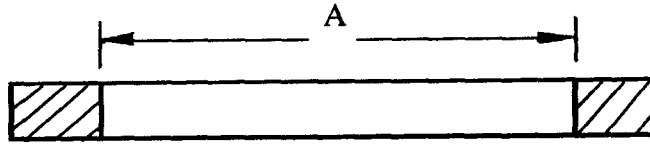

Fig. 1-1 Measuring the front wear ring
The front wear ring should be checked for both wear and damage by measuring the inner diameter (A) at several places (Fig. 1-1).